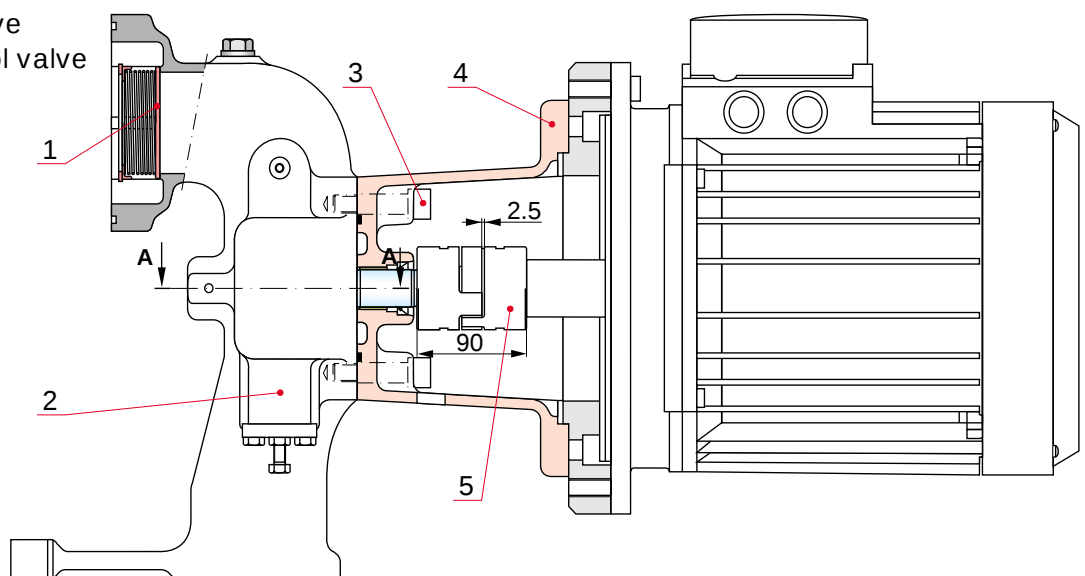
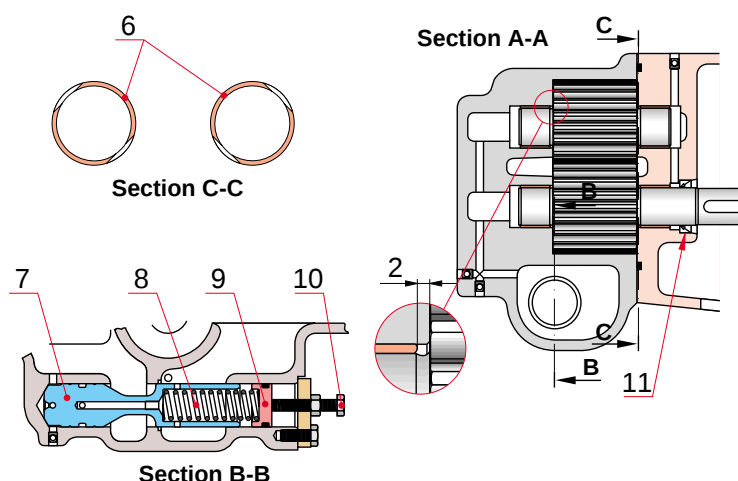

Fig 18-8
Fig 18-9
The pump is of the gear type, driven by an electric motor. The pump is provided with an adjustable pressure control valve (2), Fig 18-8. The pressure should be limited to the max. value, about 2 bar, by unscrewing the adjusting screw to the end position in order to prevent the electric motor from being overloaded when running with very cold oil.
- 3 Mount new bearings** (freezing is recommended) so that the bearings are two 2 mm below the cover and housing level, Fig 18-9. Be careful so that bearing lubrication grooves slide into the right position according to section C-C in Fig 18-9.
- 2** Mount the axial seal (11) in the cover and lubricate with grease.
- 3** Mount the bracket (4) Check that the O-ring in the groove is intact and in position.
- 4** Tighten the screws (3) to torque according to chapter 07.
- 7** Check the distance between coupling halves and adjust if necessary, see Fig 18-8.
The pressure regulating valve, see Fig 18-9, is integrated in the prelubricating oil pump housing and regulates the oil pressure before the engine by returning the surplus oil direct from the pressure side of the pump to the suction side.